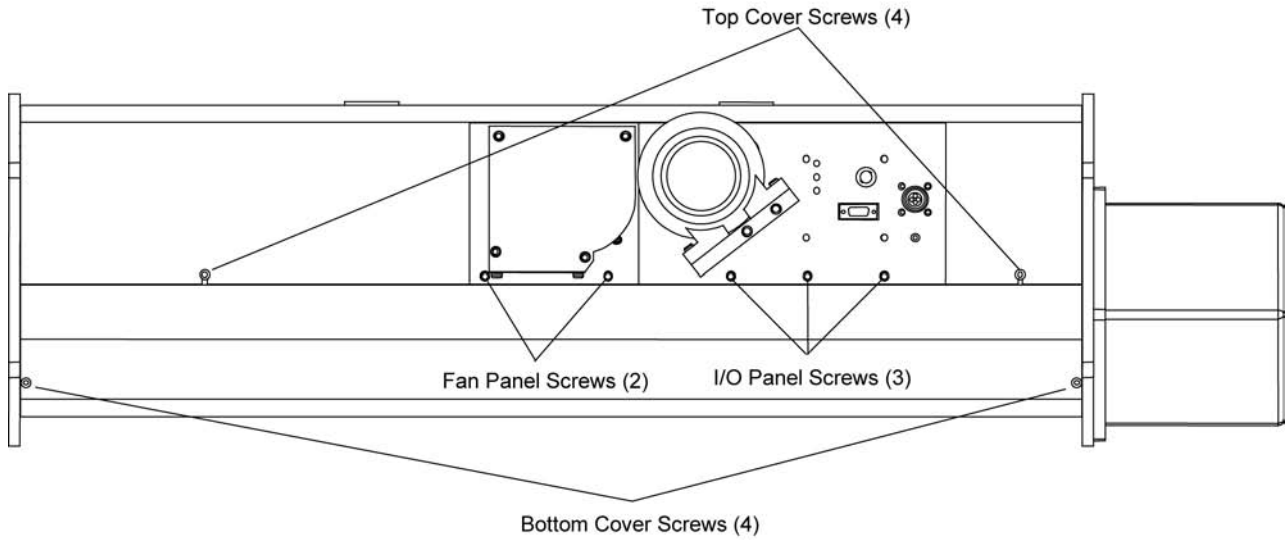

Figure 8-36
2. Loosen the four screws fastening the top cover of the Nephelometer and remove the cover (Figure 8-36).